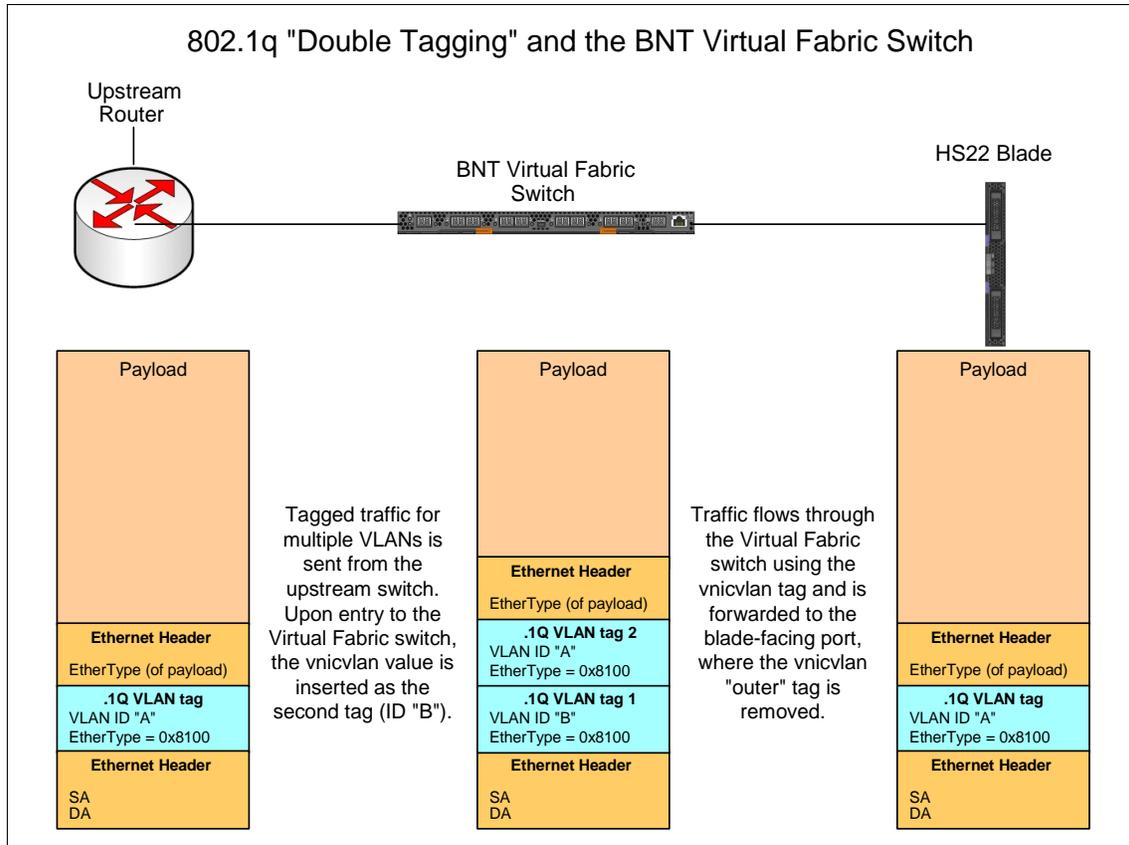

Figure 5-27 Double tagging
- ▶ Within a group, conventional VLANs configured by an operating system on a server blade (such as with the **vconfig** command in Linux) are implemented as *inner tags*. These inner tags pass through the group and the Virtual Fabric Switch unchanged. The VLAN configuration on upstream switches must match the VLANs on the blades, but the Virtual Fabric Switch passes the inner tags through (Figure 5-27 on page 86).